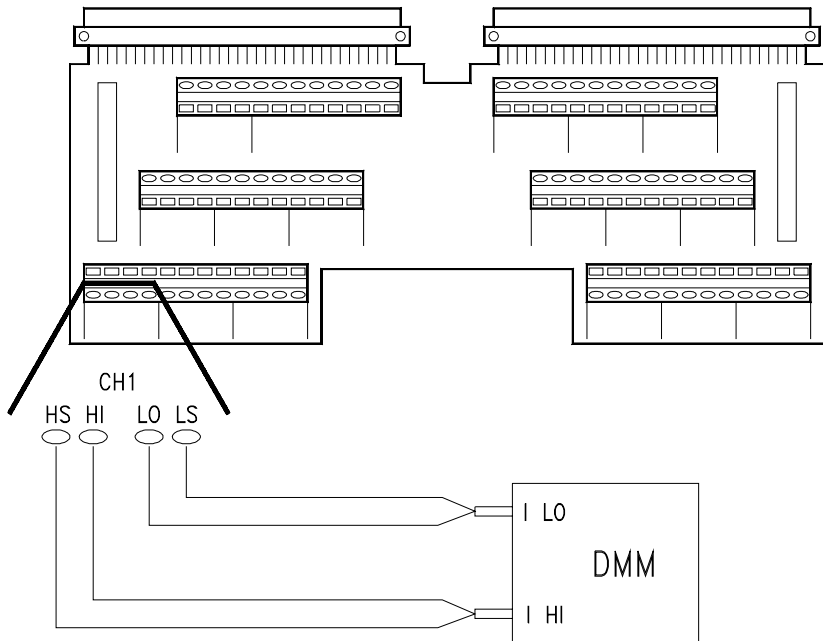

Figure 4-3. DC Voltage Output Connections (Channel 1)
1. For each channel in the module, connect the DMM as shown in Figure 4-3. Channel 1 connections are shown in the figure. Connect the other channels in a similar manner. Set the DMM to measure dc current (the DMM should have a current shunt of $100\ \Omega$ or less for this test).